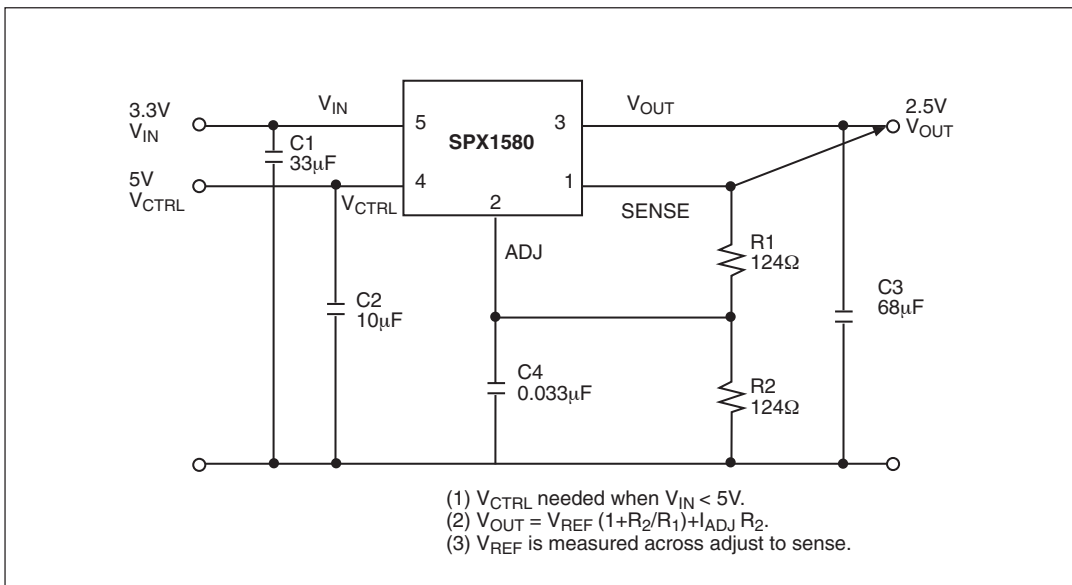

Figure 1. Adjustable Regulator.
1.25V reference voltage is being developed between the SENSE pin and the ADJ pin of the SPX1580. Adding two external resistors (see fig 1.) will allow setting the output voltage from 1.25V to 6V.  $R_1$  is chosen so that this current is specified minimum load current of 10mA.  $R_2$  is given by the formula:  $V_{OUT} = V_{REF} (1 + R_2/R_1) + I_{ADJ} R_2$ . The current flowing from the ADJ pin is typically 50 $\mu$ A. This ADJ pin contributes to the final  $V_{OUT}$  but is usually neglected. Connecting the sense pin to the top of the resistor divider will improve load regulation.